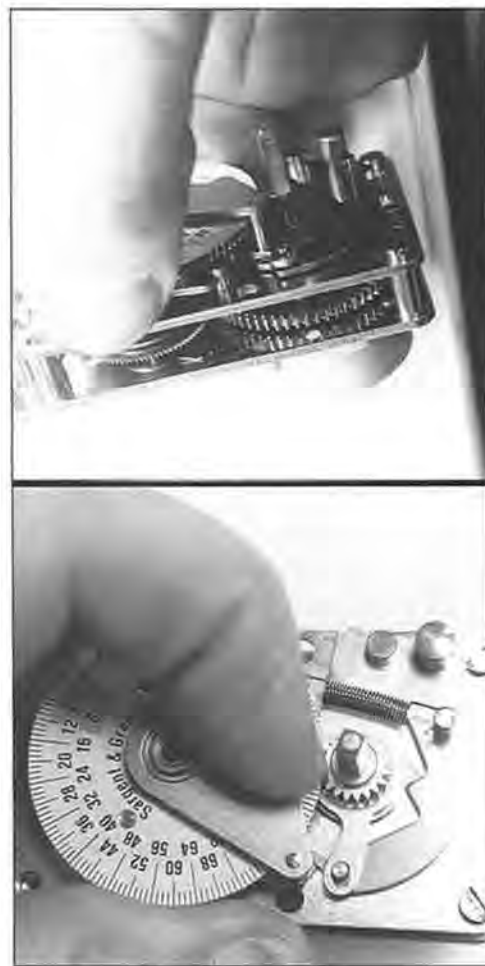

Figure 17. Grasping the indicator dial/gear wheel assembly and rotating it counterclockwise to arm (or load) the tension onto the snap-action spring.
6. Grasp the gear wheel with the sides of your thumb and index finger and turn it counterclockwise to load the snap-action spring of the gear wheel assembly (Figure 17); and then slip the gear wheel assembly down fully onto the center post, engaging the teeth of the gear wheel with the teeth of the winding pinion (Figure 18).